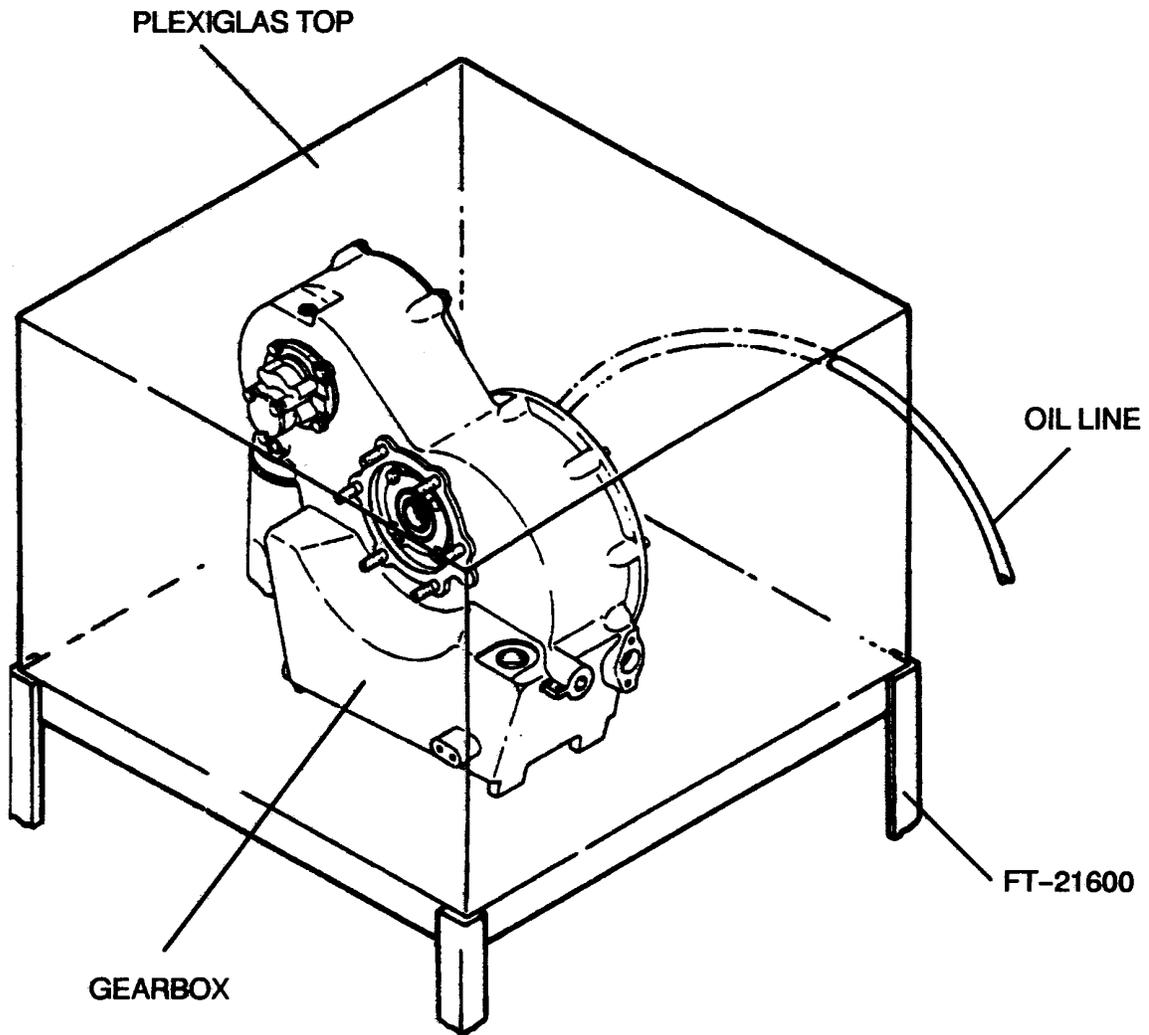

Figure 8-25. Using Oil Impingement Test Stand, Fabricated Tools FT-21600
(32) Install oil pressure relief valve (8) and key washer (6) in gearbox housing Secure with retaining ring (5) and bend down tab on key washer.
(33) Lubricate performed packing (3) and install on oil sediment strainer (4).
(34) Install oil sediment strainer (4) and key washer (2) in gearbox housing Secure with retaining ring (1) and bend down tab on key washer
(35) Lubricate performed packing (16) and install on oil supply union (15) Install oil supply opening Torque to 70-80 inch pounds (7.9-9.0 Nm)
(36) Install washer (18) and oil filter adapter (17) Torque to 300-400 Inch pounds (33 9-45.2 Nm)
(37) Install gearbox housing assembly in oil Impingement test stand, fabricated tool FT-21600 (See Figure 8-25).
(38) Install test oil filter and dummy oil pump. Attach hose to dummy oil pump Turn on test stand motor